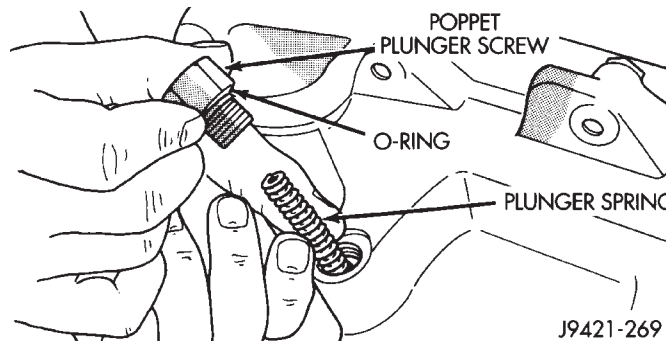

Fig. 32 Poppet Plunger Screw And Spring Removal
- (3) Remove poppet plunger screw and spring (Fig. 32). Note that screw has O-ring seal. Remove and discard seal this seal.